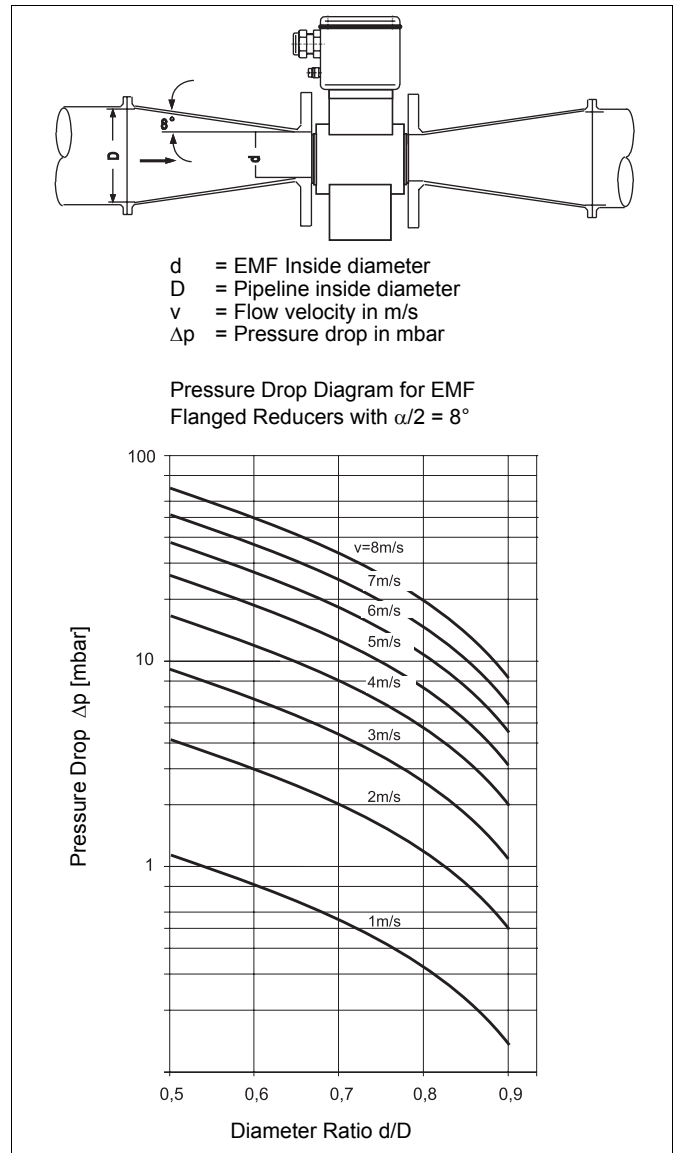

Fig. 19 Pressure Drop Nomograph
The flowmeter can readily be installed in larger size pipelines through utilization of flanged transition sections. The pressure drop resulting from the reduction can be determined from Diagram Fig. 19 using the following procedure:
3. The pressure drop can be read on the -Y- axis at the intersection of the flow velocity value and the "Diameter Ratio d/D " value on -X- axis in Fig. 19.